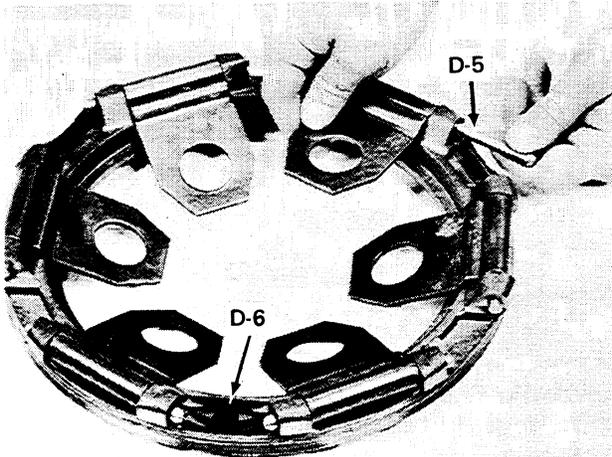
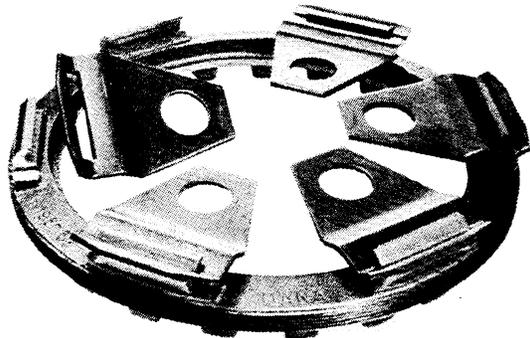

Figure 16:
Figure 17:
14. To complete the ring disassembly, remove the retain-er clip (D-6) from pivot pins (D-5), and remove pins and levers (see Fig.16).
NOTE: Later "knife-edge" design adjusting ring will not have pivot pins and clips as shown in Fig. 16 (see Fig. 17).